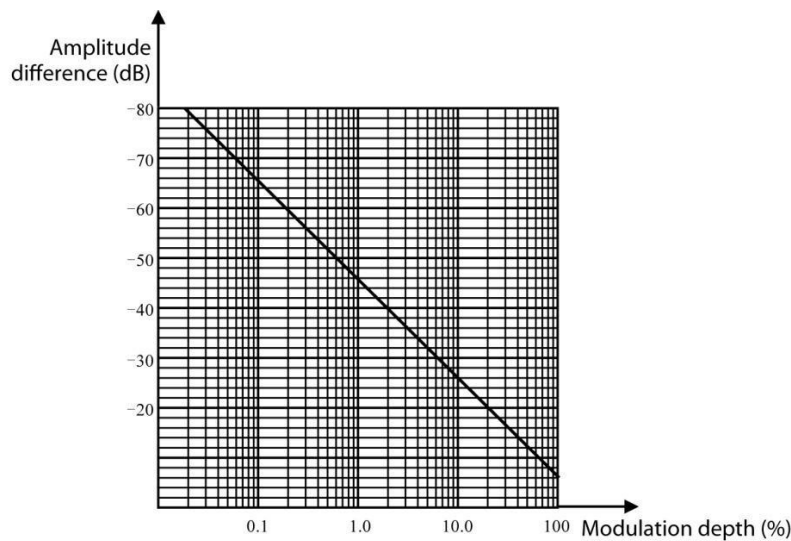

Fig. 4.34 Relation graph of modulation depth and amplitude difference
- Press [Peak Search], [Delta Marker] and [Next Peak] to get the difference between the carrier and the sideband signal. The frequency difference of two signals can be read via the delta marker, which is the modulation speed of the measured AM signal and used to determine modulation depth as shown in Fig. 4.34.